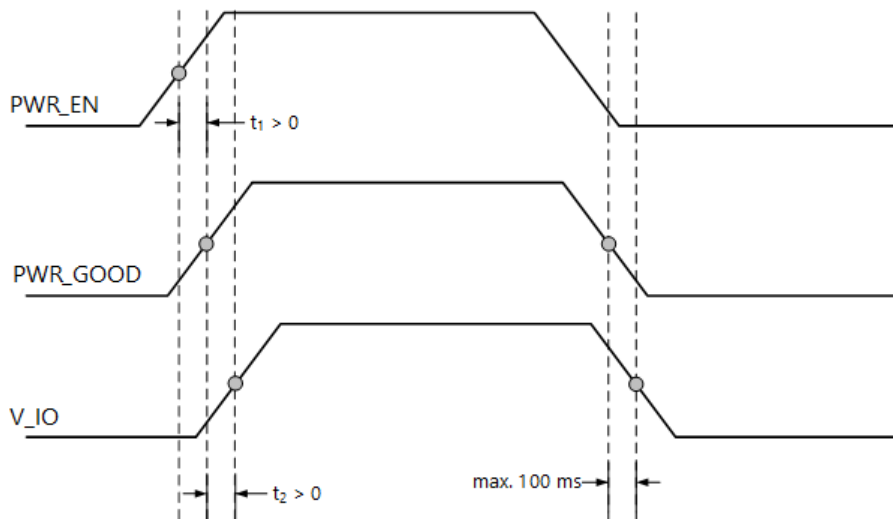

Figure 10: Power-Up Sequence - VIO in Relation with PWR\_GOOD and PWR\_EN Signals
Figure 10 illustrates the requirements of the V\_IO power sequence. Do not power the V\_IO pins when PWR\_GOOD and PWR\_EN signals are not active. If the module is not powered, make sure that the V\_IO voltages are disabled, for example, by using a switch that uses PWR\_GOOD as enable signal on the base board.
- Follow the power sequence diagram shown in Figure 10. This ensures that the I/Os are tri-stated at power-on and power-off.